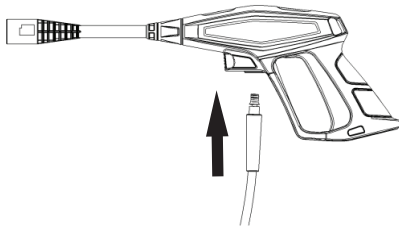

Figure 1
1. Connect the end of the high pressure hose firmly into the trigger assembly. See figure 1 and 2.